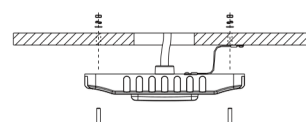

Figure 3
- 3.Fix another side of safety rope on the ceiling, then connect the wire of fixture to main supply according to local electrical connection mode , make sure good protection on the wire joint, after that, fix the fixture on the ceiling with accessory screws(Figure 3).